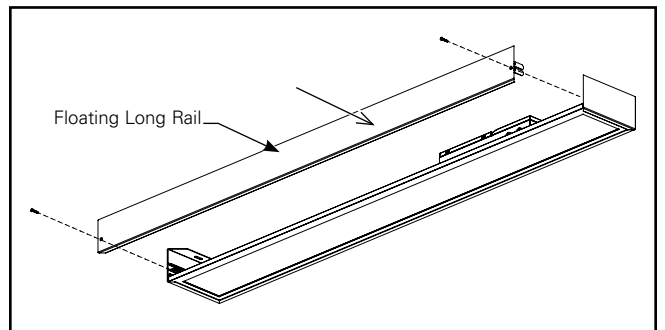

Figure 11.
- A11. Reinstall the floating long rail, L-brackets and screws, and affix the included labels to the floating long rail next to each screw. (Figures 11 and 12.)